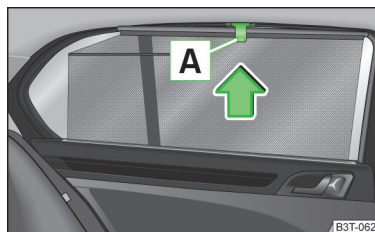

Fig. 61
- » Pull out the sun screen with the handle **A** » Fig. 61 and hang it in the bracket on the top edge of the door.
➤ Remove the sun screen from the handle **A** » Fig. 61 and hold it in such a way that it can roll up slowly without being damaged.